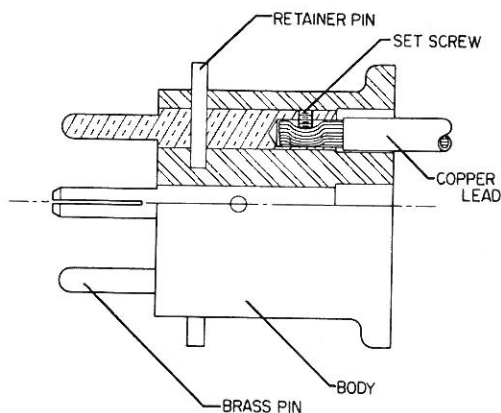

Figure 1
To assemble and wire the load disconnect plug, proceed as follows (See Figure 1):
6. Insert the retainer pin, and tap it firmly into place. The retainer pin will protrude approximately 3/8" when fully seated (See Figure 1).